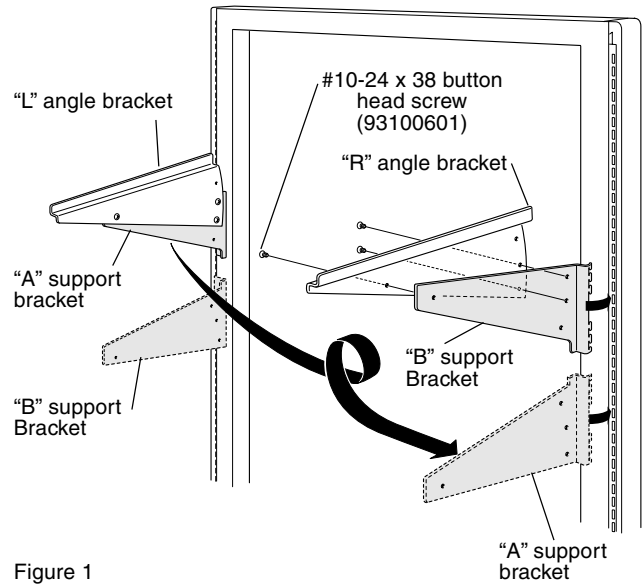

Figure 1
1. With flat side up, engage support bracket "A" into left-hand side of frame at designated height. Push down to securely set. Repeat with support bracket "B" into right-hand side of frame. (Figure 1)
2. With top bend facing outward, fasten left-hand angle adapter bracket "L" to the inside of support bracket "A" using three (3) #10-24 x 3/8" button head cap screws provided at angle desired. Repeat with right-hand angle bracket "R" fastening to support bracket "B". (Figure 1 and 2)
4. With sloping sides up, engage support bracket "B" into left-hand side of frame and support bracket "A" into right-hand side of frame per paragraph 1. (Figure 1)
5. With top bend facing outward, fasten right-hand angle adapter bracket "R" to the inside of support bracket "A" using three (3) #10-24 x 3/8" button head cap screws provided at angle desired. Repeat with left-hand angle bracket "L" fastening to support bracket "B". Continue with shelf installation per paragraph 3. (Figure 1 and 2)